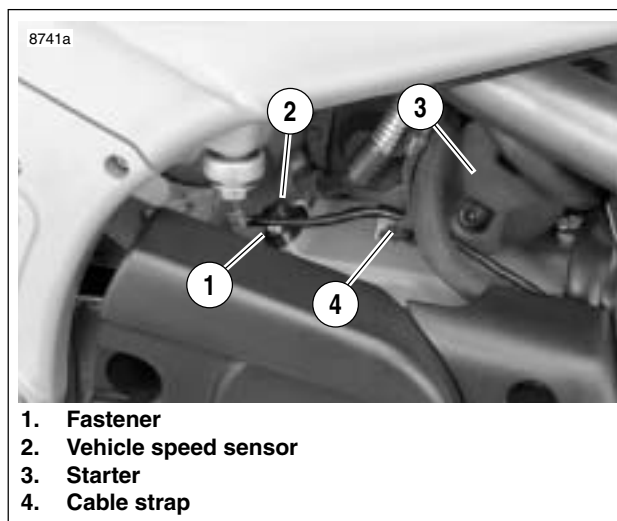

Figure 7-60. Speedometer Sensor
1. See Figure 7-60. Remove fastener (1) to detach vehicle speed sensor (2) from crankcase.
2. Remove cable strap (4).
1. See Figure 7-60. Install fastener (1) to attach vehicle speed sensor (2) to crankcase.
3. Install cable strap (4).